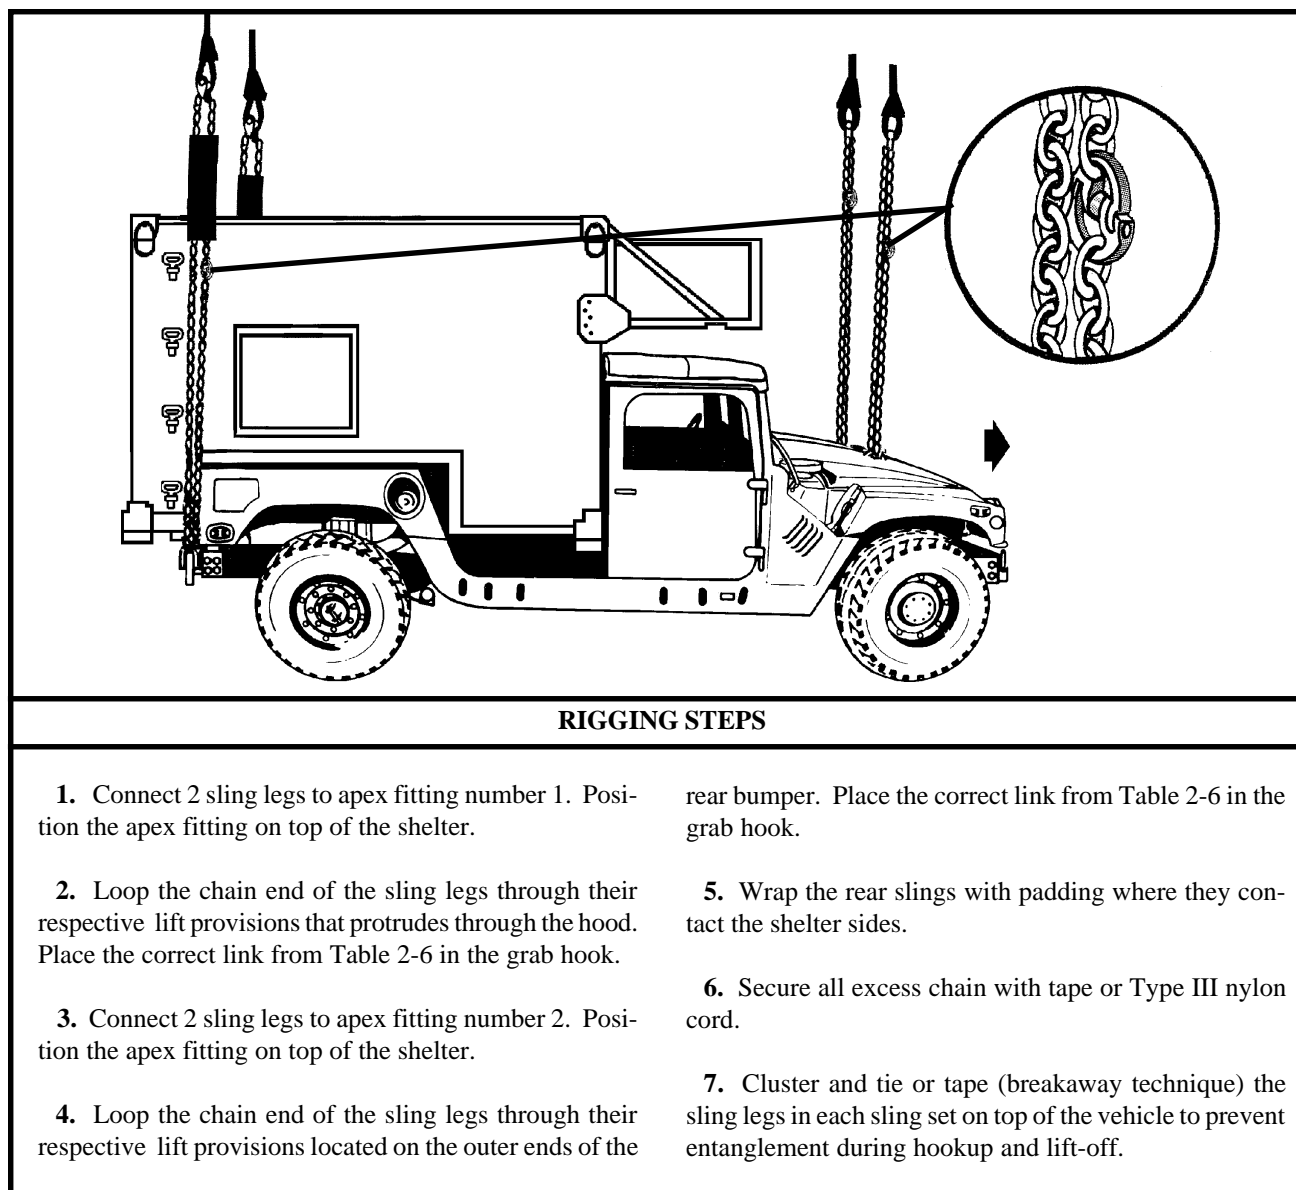

Figure 2-6. LMS Shelter Mounted on the M1097
(2) **Rigging.** Rig the load according to the steps in Figure 2-6.
(2) Rigging. Rig the load according to the steps in Figure 2-6 and using the link counts in Table 2-7.
(3) Hookup. The hookup team stands on top of the shelter. The static wand person discharges the static electricity with the static wand. The forward hookup person places apex fitting 1 onto the forward cargo hook. The aft hookup person places apex fitting 2 onto the aft cargo hook. The hookup team then carefully dismounts the vehicle and remains close to the load as the helicopter removes slack from the sling legs. When successful hookup is assured, the hookup team quickly exits the area underneath the helicopter to the designated rendezvous point.
(4) Derigging. Derigging is the reverse of the preparation and rigging procedures in steps d (1) and d (2).